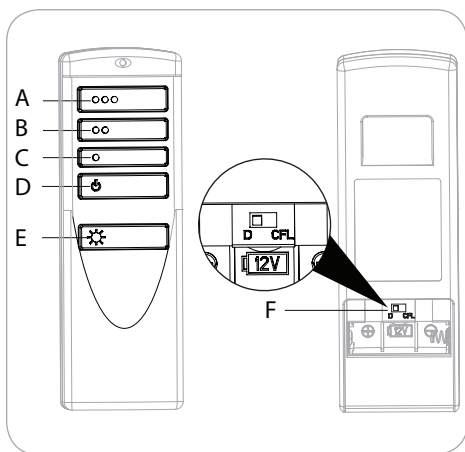

Figure 6.1
- D/CFL Switch:** Switch should be set to "D" to correspond with the included LED bulbs, which will enable the dimming function. Flip to "CFL" if you change to non-dimmable bulbs. (Figure 6.1).